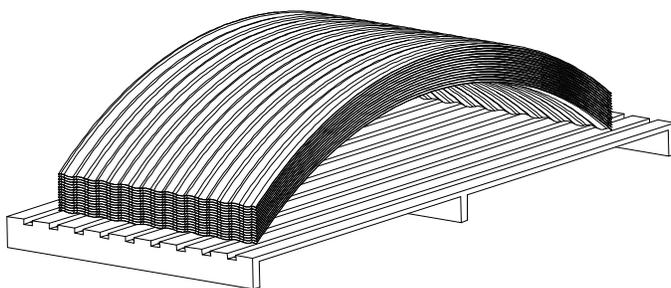

Fig 3 - Wall sheets elevated and hump up
- Store curved wall sheets "hump up." See Figure 3.
- Store wall sheets in a dry place. Keep your wall sheets in good condition by separating them and allowing air circulation between them. Always store them “hump-up”. See Figure 3.